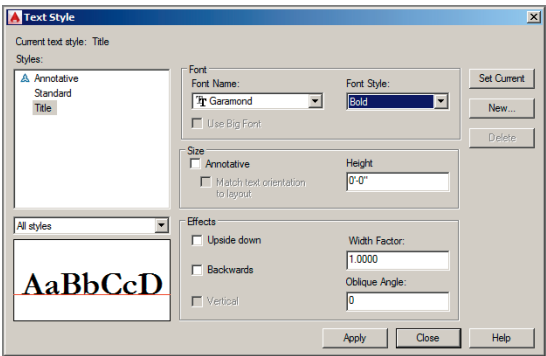

FIGURE 10.2 Configuring the Title style
3. Open the Font Name drop-down and select Garamond. The symbol next to the font name indicates this is a TrueType font. Set Font Style to Bold, and deselect Annotative if it is checked (see Figure 10.2). Click the Apply button.